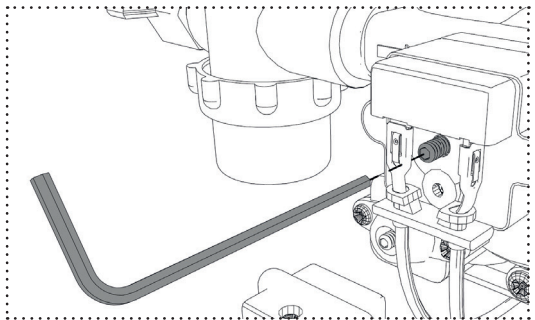

Fig. 13: Adjusting the pressure switch
1. Turn the screw counterclockwise all the way out (Fig. 13).